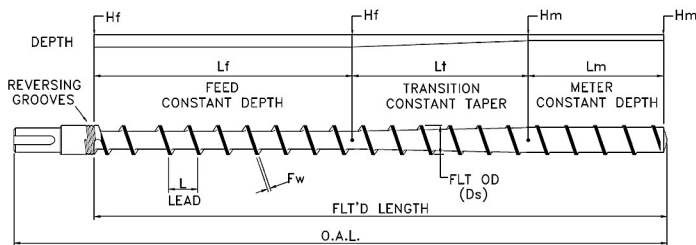

Figure 4: Standard Extruder Screw
The most common type of single flighted extruder screw, also referred to as a Conventional or General-Purpose (GP) screw, is divided into three distinct geometric sections, as shown in Figure 4.